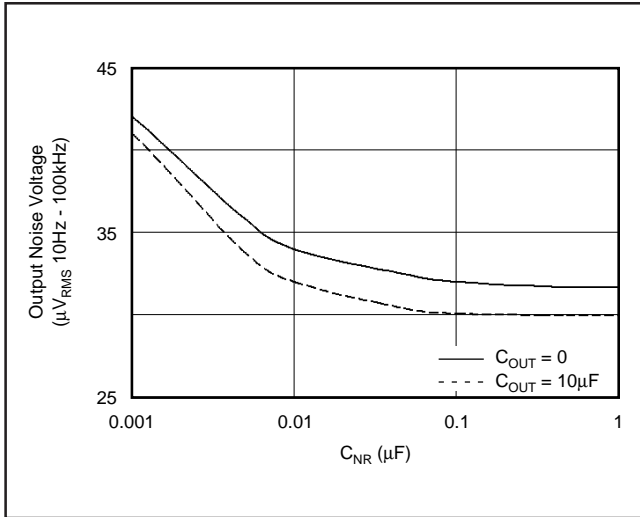
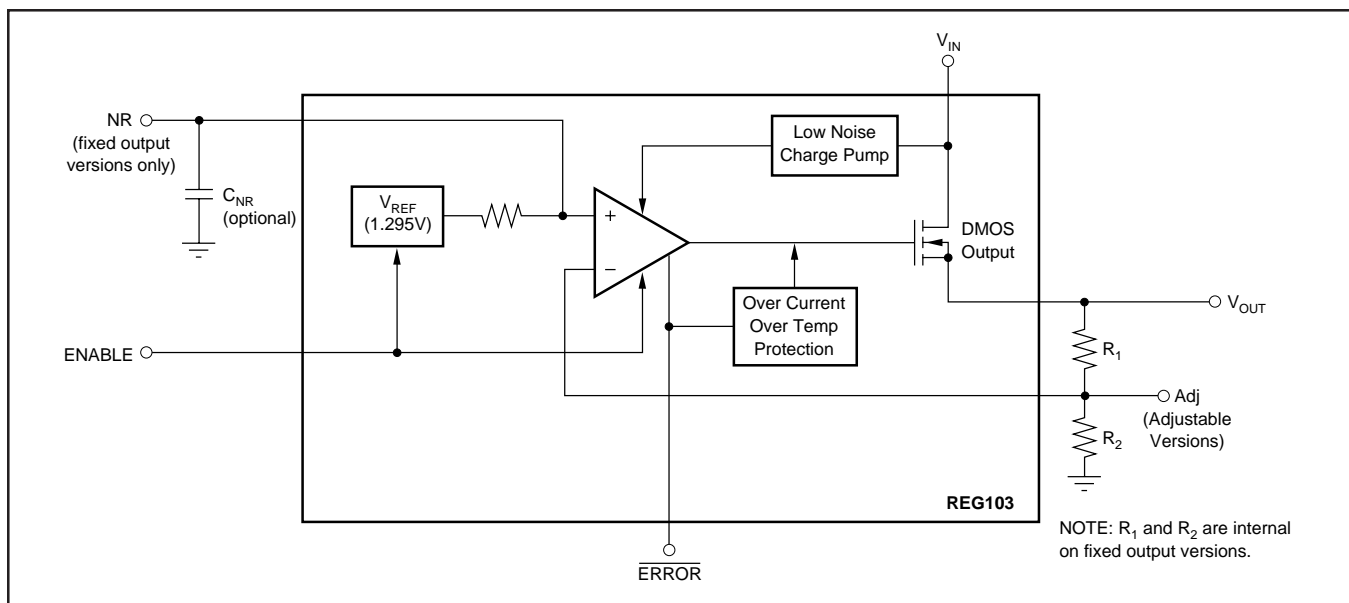

FIGURE 8. Output Noise versus Noise-Reduction Capacitor.
FIGURE 7. Block Diagram.
Connecting a capacitor,  $C_{NR}$ , from the Noise-Reduction (NR) pin to ground, can reduce the output noise voltage. Adding  $C_{NR}$ , as shown in Figure 7, forms a low-pass filter for the voltage reference. For  $C_{NR} = 10nF$ , the total noise in the 10Hz to 100kHz bandwidth is reduced by approximately a factor of 3.5, as shown in Figure 8.